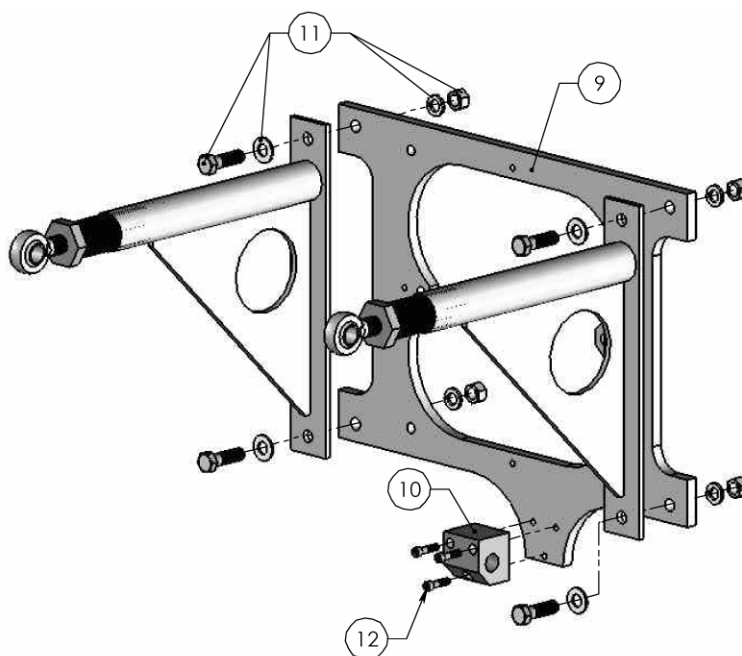

Figure 4. Assembly of Antenna Mount Plate and Azimuth Control Arms.
2.4.2 Assemble Antenna Mount Plate and Azimuth Arms (see Figure 4)